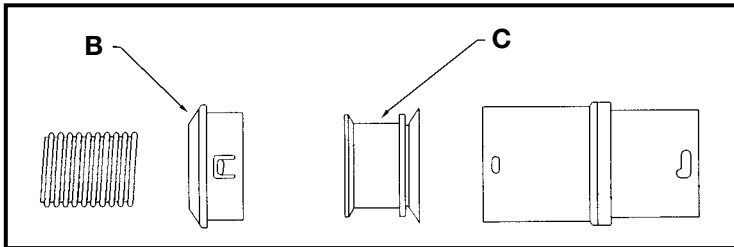

Fig. 4B
- C. Grasp hose in one hand and mounting hub (C) Fig. 4B in the other. Rotate the mounting hub clockwise (left-hand thread) to remove it from the hose.
- D. Slide the collar (B) off the standard hose and position it onto the Static Dissipating hose.
- E. Thread the mounting hub (C) onto the Static Dissipating hose (by turning it counterclockwise).
- F. Place the bayonet connector onto the mounting hub and position the collar (B), so that its locking tabs align with the holes in the bayonet connector.